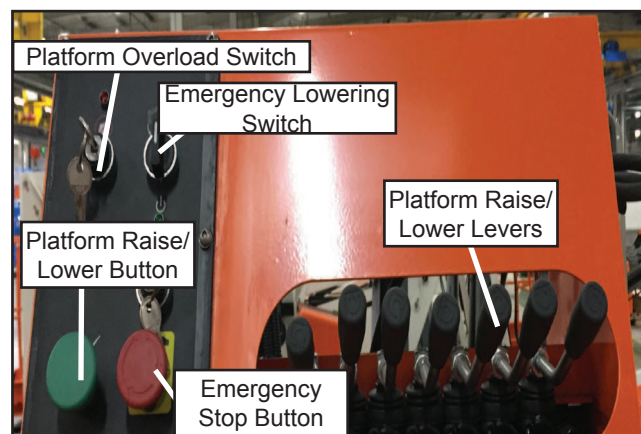

Figure 2-13 – Upper Controls
4. From the upper controls, twist and pull the emergency stop button outward (refer to Figure 2-13).
To re-start the machine, the excess load must first be removed to stop the alarm from sounding. In a situation where the excess load cannot be removed immediately then the platform overload switch (refer to Figure 2-13) can be used to move the platform to a safe position so that the excess load can be removed safely.